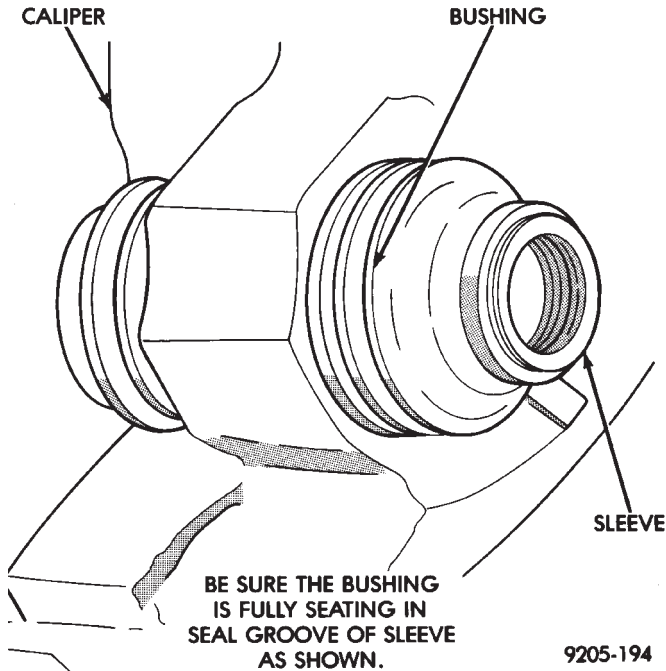

Fig. 159 Correctly Installed Caliper Sleeve And Bushing
(7) Holding sleeve in place, work other end of bushing over end of sleeve and into the seal groove on sleeve (Fig. 159). Be sure other end of bushing did not come out of seal groove in sleeve.
(8) When the sleeve is seated properly into the bushing, the sealed for life sleeve/bushing can be held between your fingers and easily slid back and forth without the bushing unseating from the sleeve groove.